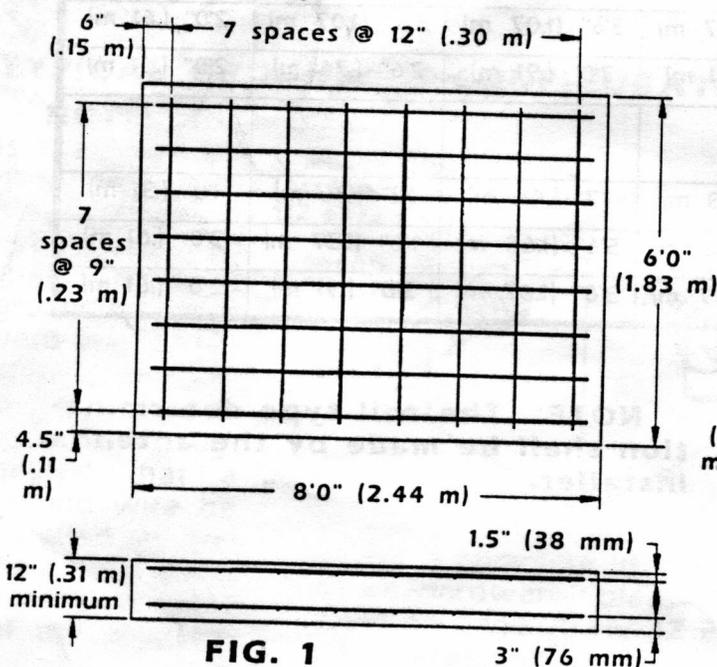

FIG. 1
2. Place eight #4 (10 mm) diameter reinforcing bars each way as shown in Fig. 1 at 3" (76 mm) from bottom. Place eight #4 (10 mm) diameter reinforcing bars each way as shown in Fig. 1 at a depth of 1 1/2" (38 mm).
1. The footings should be poured as level as possible in accordance with the dimensions shown in Fig. 1 in order to adequately support the antenna during violent weather, hard freeze, or muddy conditions. **NOTE:** It is recommended to use eye bolts in the corners of the footings to tie down the antenna during assembly and in areas subject to high winds. Eye bolts may be installed later with expansion sleeves, if necessary.